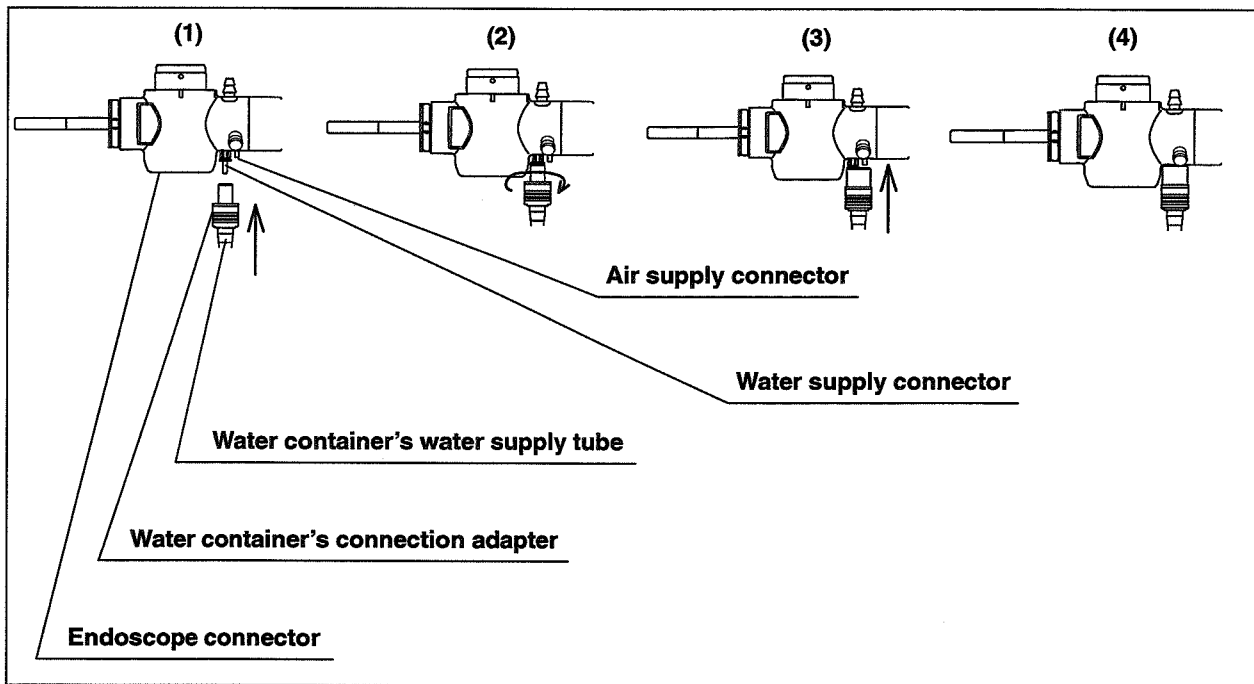

Figure 3.10
2. Connect the water container's connection adapter to the air supply connector and water supply connector as shown in Figure 3.10.